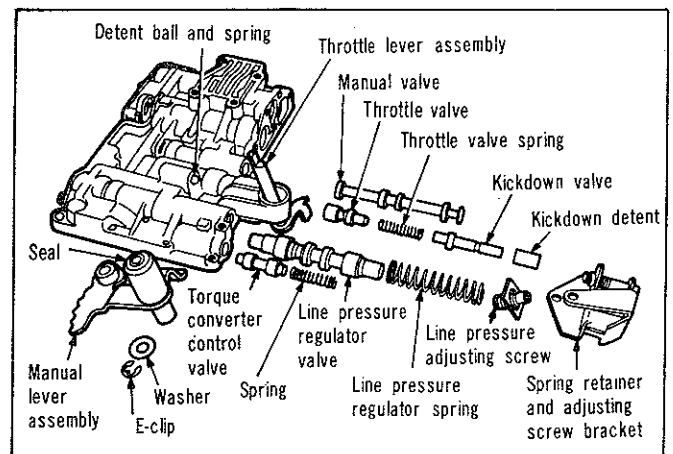
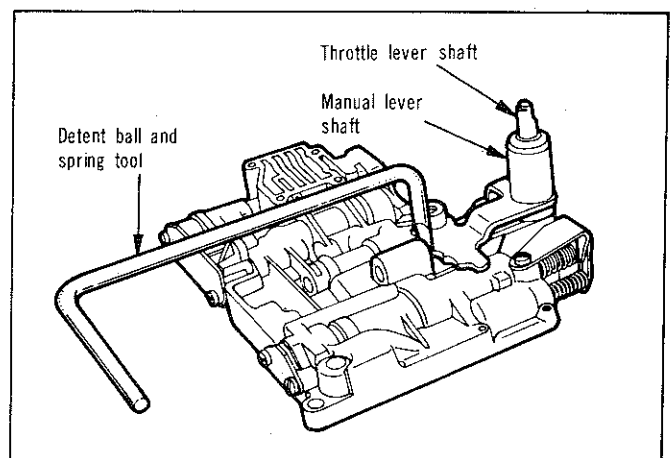

Fig. 39—Pressure regulators and manual control
Fig. 42—Installing detent ball, spring and control levers
(1) Remove E-clip and washer from throttle lever shaft (Fig. 39). Remove any burrs from shaft, then while holding manual lever detent ball and spring in their bore with Tool E21C15A or similar tool, slide manual lever off the throttle shaft. Remove the detent ball and spring.
(2) Slide manual valve out of its bore.
(3) Slide out the kickdown detent, kickdown valve, throttle valve spring and the throttle valve.
#### Manual Leaver and Throttle Leaver (Fig. 39)
- (3) Install throttle lever and shaft on valve body (Fig. 39). Insert detent spring and ball in its bore in valve body. Depress ball and spring with Tool E21C15A (Fig. 42) or similar tool and slide manual lever over throttle shaft so that it engages manual valve and detent ball. Install seal, retaining washer and E-clip on throttle shaft.